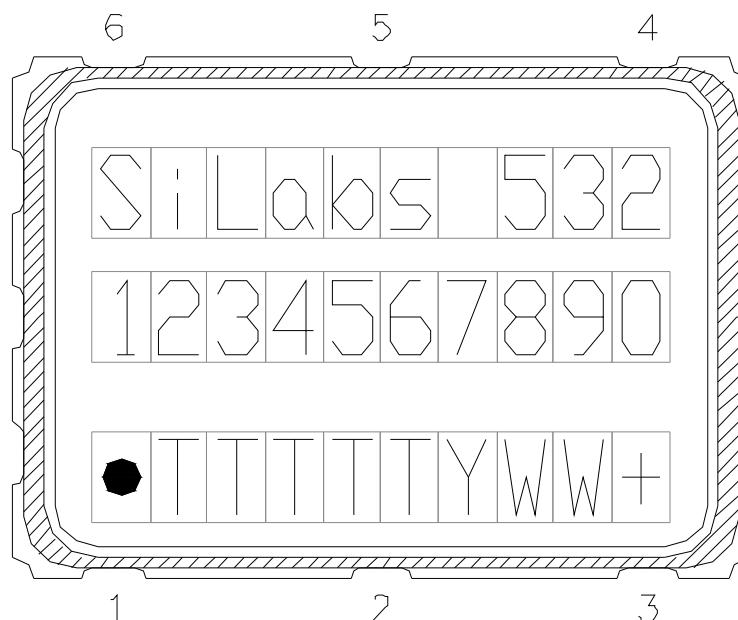

Figure 3. Mark Specification
Figure 3 illustrates the mark specification for the Si532. Table 12 lists the line information.
- Updated Figure 3 and Table 12 on page 9 to reflect specific marking information. Previously, Figure 3 was generic.